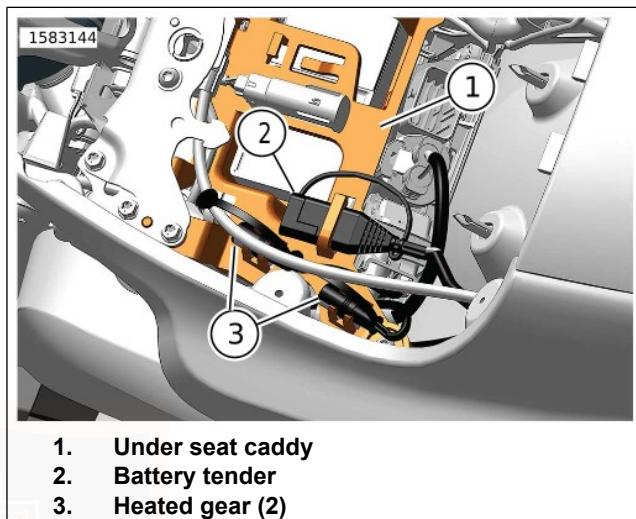
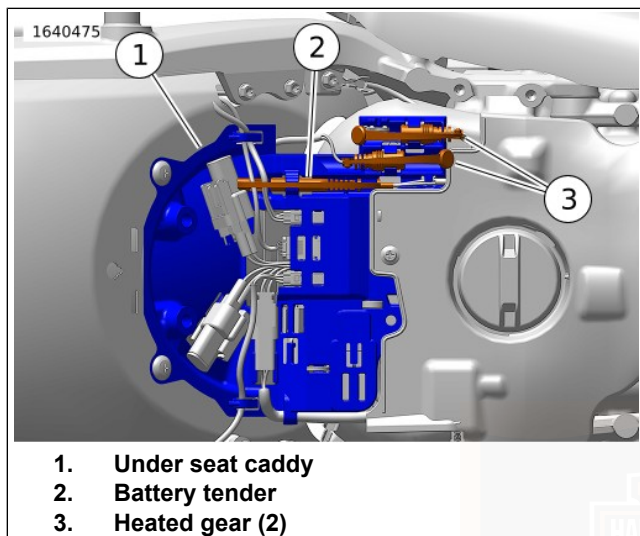

Figure 75. Under Seat (Top Mounted Fuel Tank)
Figure 76. Under Seat (Under Seat Fuel Tank)
See Figure 75 or Figure 76. Maintaining the battery between rides and while stored can maintain battery charge and extend the life of the battery. Connect the battery tender connector (2) to a battery tender during storage or to a battery charger if the battery voltage drops below specification. See SERVICE PROCEDURES > BATTERY MAINTENANCE (Page 166).